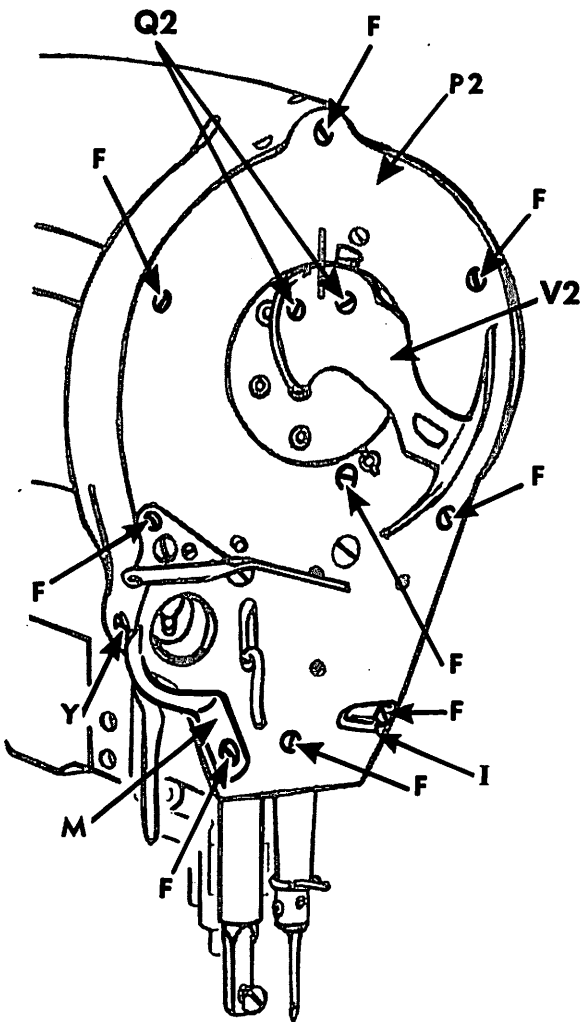

Fig. 47 Removing Face Plate
To adjust tension, loosen screw Y, Fig. 47 and remove entire assembly. Loosen set screw N, Fig. 45, page 18 and, while holding regulator X, Fig. 45, turn stud over slightly toward left to increase tension or toward right to decrease tension. Tighten screw N, Fig. 45, and replace assembly in machine with spring at "2 o'clock" as shown in Fig. 46.
2. Remove two screws Q2 and rotary take-up V2, Fig. 47.
3. Loosen screw Y, Fig. 47 and remove needle thread tension assembly.
4. Remove nine screws F, Fig. 47 and remove thread guide I, tension threading guide M and face plate P2, Fig. 47.
1. Install face plate P2, guide M and guide I as shown in Fig. 47, fastening them to machine casting with nine screws F, Fig. 47.
2. Replace take-up V2 and two screws Q2, Fig. 47.
3. Replace needle thread tension assembly and securely tighten set screw Y, Fig. 47.